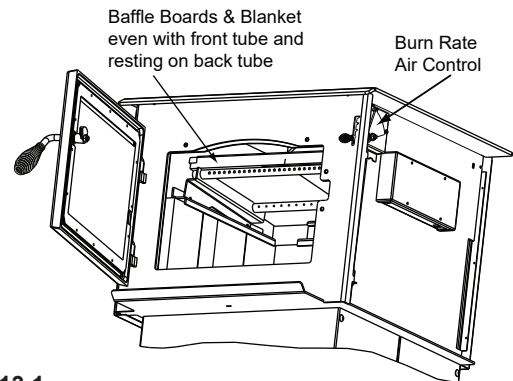

Figure 13.1
1. Confirm the baffle is correctly positioned. It should be even with the front tube and resting on all tubes (**Figure 13.1 and 13.2**).